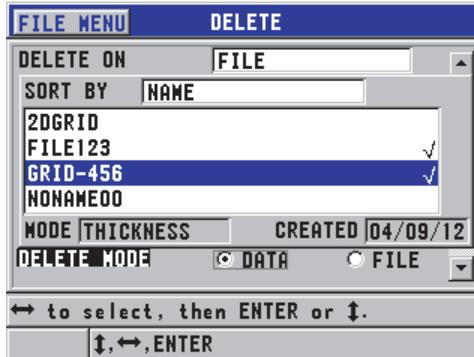

Figure 6-31 Deleting a file
2. In the **DELETE** screen (see Figure 6-31 on page 109):